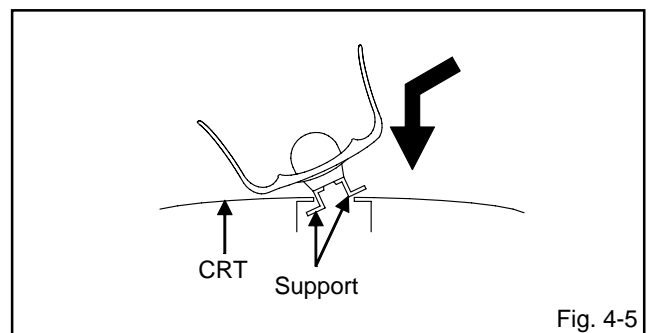

Fig. 4-5
4. Insert one end of the Anode Support into the anode button, then the other as shown in **Fig. 4-5.**